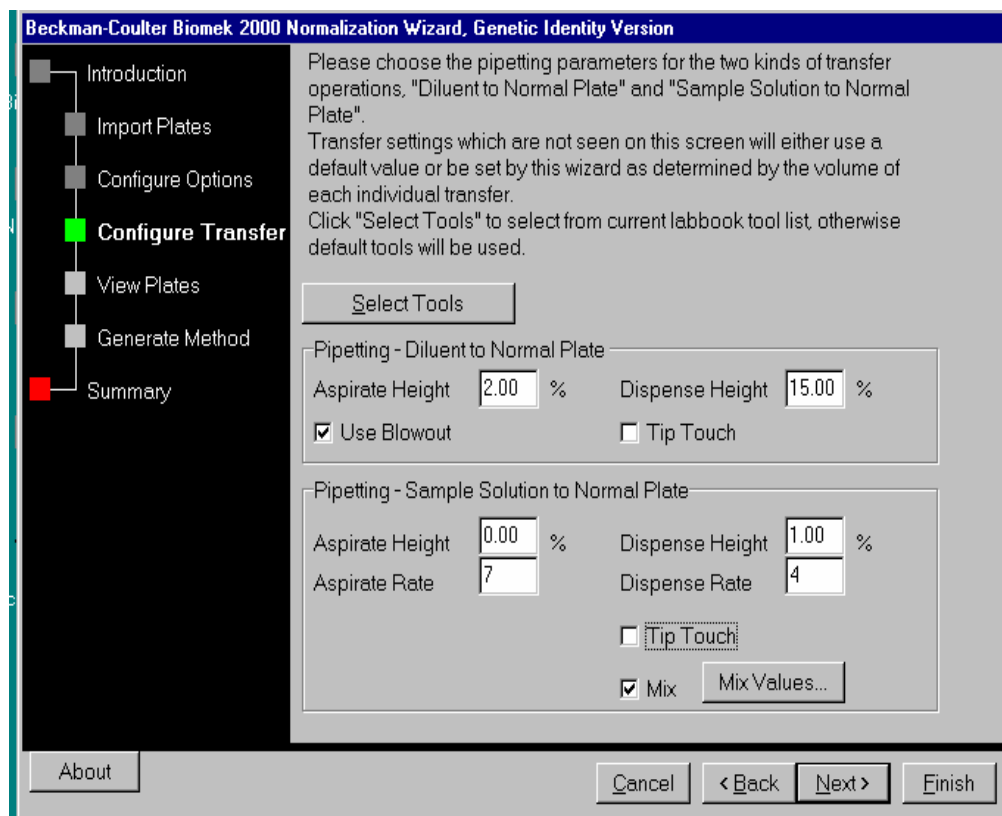

Figure 8. Setting pipetting parameters.
5.5.4 Verify that the parameters are set as appears in the boxes below on the Configure Transfer screen (Figure 8):